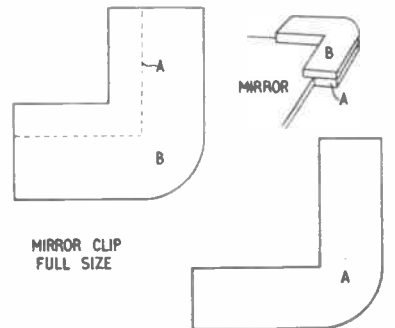

Fig. 5
The mirror should measure about 7ins. by 5ins., and is held in place by four clips made from wood as shown in Fig. 5. The pieces (A) and (B) are shown full size and are glued together as indicated in the inset diagram. The thickness of piece (A) depends upon the mirror, but $\frac{1}{8}$ in. thick should be enough. Piece (B) is also cut from $\frac{1}{8}$ in. wood. The